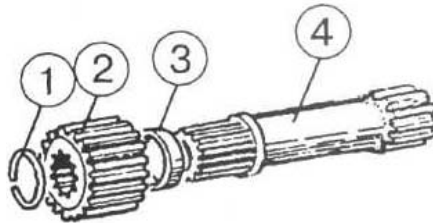

Figure 4.116
- a) mount bushing 3 (Figure 4.116) on splines of torsion 4 to the end on collar;